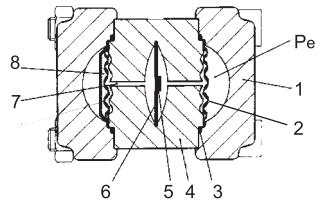

Figure 9 Measuring cell for absolute pressure, functional diagram
The absolute pressure is transmitted via the seal diaphragm (see (6) Figure 9, page 20) and the filling liquid (7) to the silicon pressure sensor (3). On exceeding the measuring limits, the overload diaphragm (5) is deflected until the seal diaphragm (6) comes into contact with the body of the measuring cell (4) and protects the silicon pressure sensor (3) against overloading. The pressure difference between the input pressure ( $p_e$ ) and the reference pressure (8) on the low pressure side of the measuring cell flexes the measuring diaphragm. Four piezo-resistors in bridge circuit doped in the measuring diaphragm change their resistance as a result. The change in resistance causes a bridge output voltage proportional to the absolute pressure.